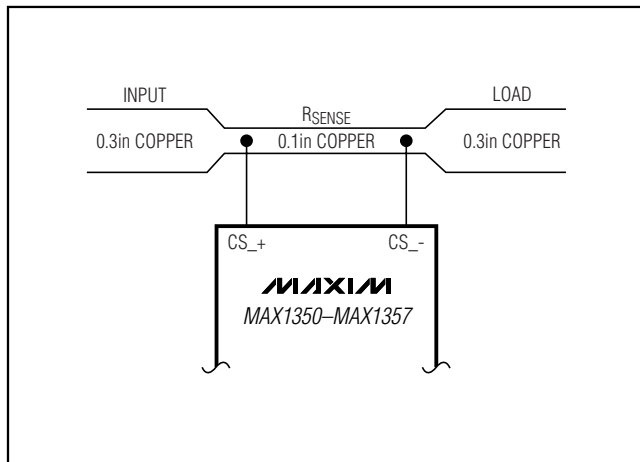
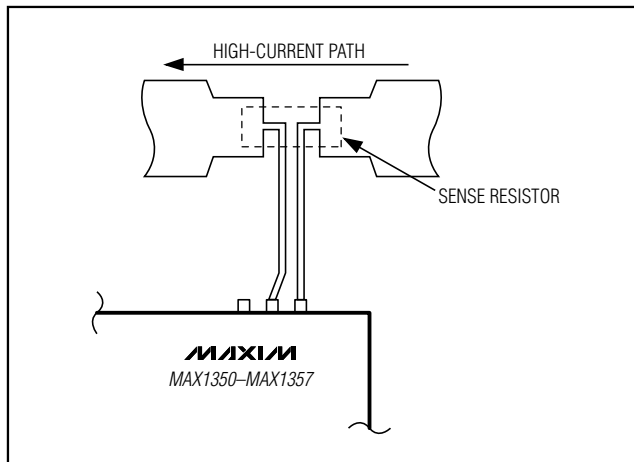

Figure 3. Using PC Board Trace for  $R_{SENSE}$
Figure 4. Kelvin Connects for Sense Resistors
- 5) Cost: If the cost of  $R_{SENSE}$  is an issue, it may be preferable to use an alternative solution, as shown in Figure 3. This solution uses the PC board traces to create a sense resistor. Because of the inaccuracies of the copper resistor, the full-scale current value must be adjusted with a potentiometer. Also, copper's resistance temperature coefficient is relatively high (approximately  $0.4\%/^{\circ}\text{C}$ ).
In Figure 3, assume that the load current to be measured is 10A using a 0.3in-wide, 2oz copper trace. The resistance of 0.1in-wide, 2oz (70 $\mu\text{m}$  thickness) copper is 30m $\Omega$ /ft. For 10A, select  $R_{SENSE} = 5\text{m}\Omega$  for a 50mV drop at full scale. This resistor requires approximately 2in of 0.1in-wide copper trace.
The MAX1350-MAX1357 can achieve high-current measurements by using low-value sense resistors, which can be paralleled to further increase the current-sense limit (see Figure 3). As an alternative, PC board traces can be adjusted over a wide range. Minimize the trace length and ensure accurate sensing with Kelvin connections (see Figure 4).